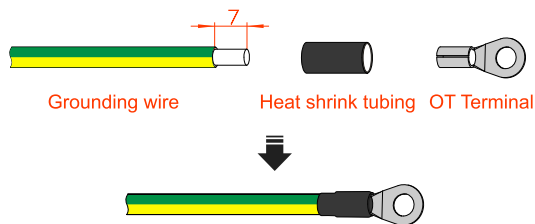

Figure3-11 Stripping diagram of external grounding wire (unit: mm)
- Step 1 Strip the insulation layer of grounding wire for about 7mm, insert the wire into OT terminal and crimp them by crimping tool, the as shown in Figure3-11.